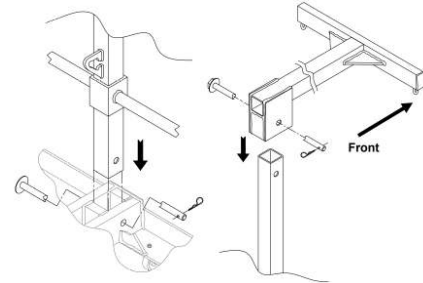

Figure 1
- Inspect to make sure the hitch pins are securely installed to the push pins (Fig. 1)